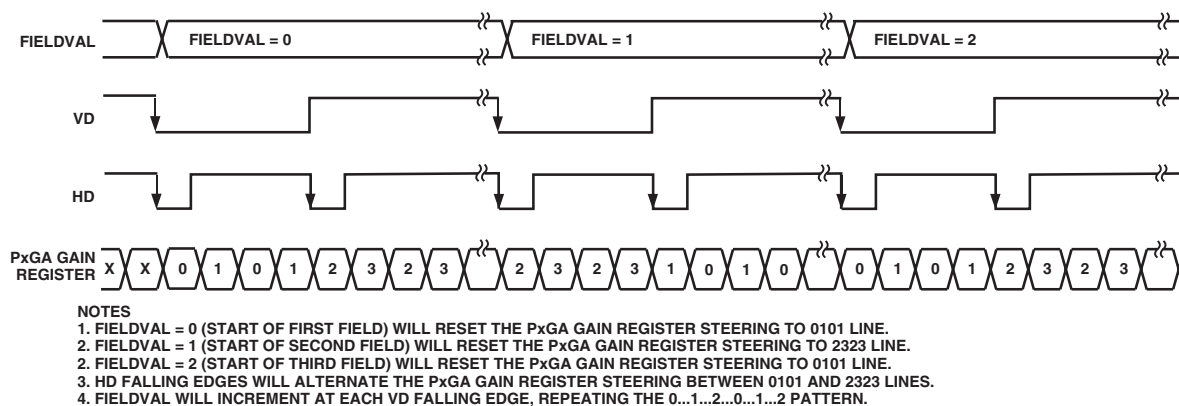

Figure 18c. PxGA Color Steering—Three-Field Mode
A third type of readout uses the Bayer pattern divided into three different readout fields. The three-field mode should be used with this type of CCD (see Figure 17c). The color steering performs the proper multiplexing of the R, G, and B gain values (loaded into the PxGA gain registers), and is synchronized by the user with vertical (VD) and horizontal (HD) sync pulses. For timing information, see Figure 18c.